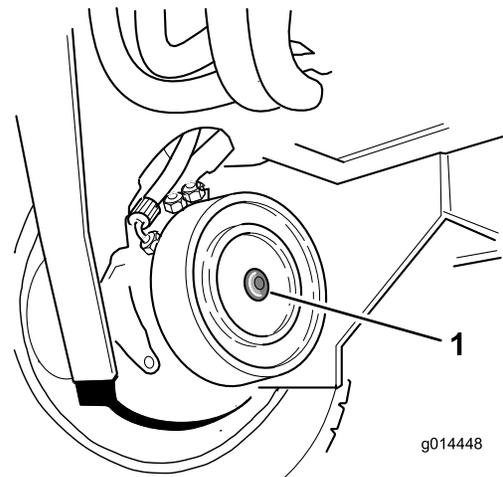

Figure 62
2. Identify the right hand front wheel motor disc brake assembly and remove the hex plug (Figure 62).